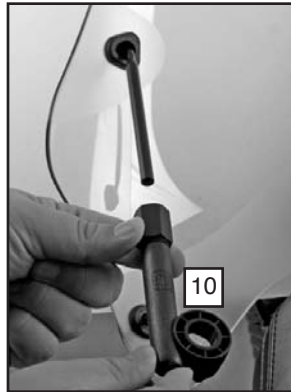

Figure 3
3. Slide the Left Telescope Bracket (10) Assembly on the Left Rod. Repeat on Right Side. Finger tighten. **Figure 3.**